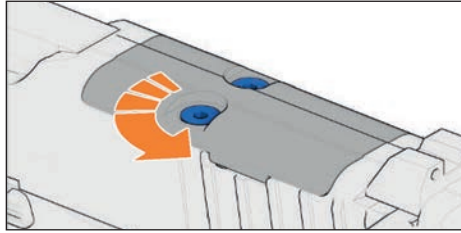

Figure 10 – Loosen screws
2. Loosen screws and remove (Figure 10).